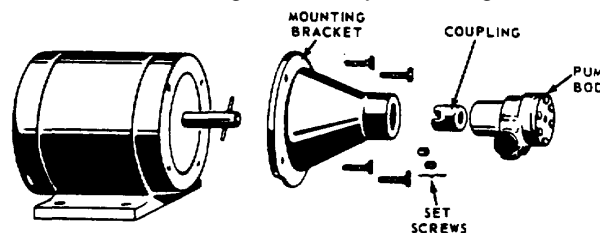

FIGURE 90
- (1) See Figure 90. Remove Pump Body from Mounting Bracket by removing Set Screws.